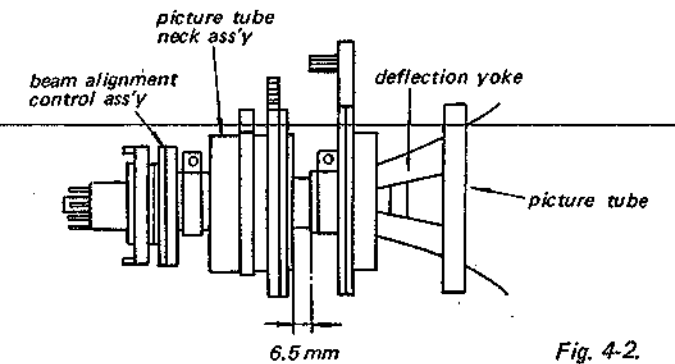

Fig. 4-2.
6. Set the picture tube neck assembly and the beam alignment control assembly as shown in Fig. 4-2.